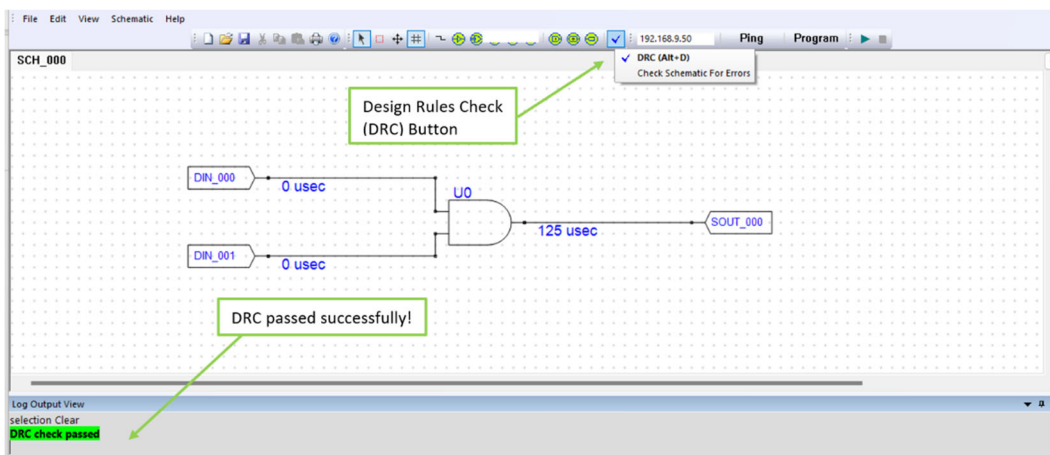

Figure 43 - DCR Completed Successfully
- Figure 43 - DCR Completed Successfully shows a Design Rules Check (DRC) for this example which passed successfully.